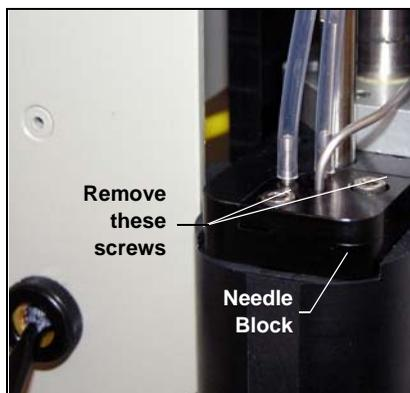

Figure 5-22. Removing the Needle Block Screws
3. Use a 2.5-mm hex wrench to remove the two screws on the top of the needle block (see Figure 5-22).